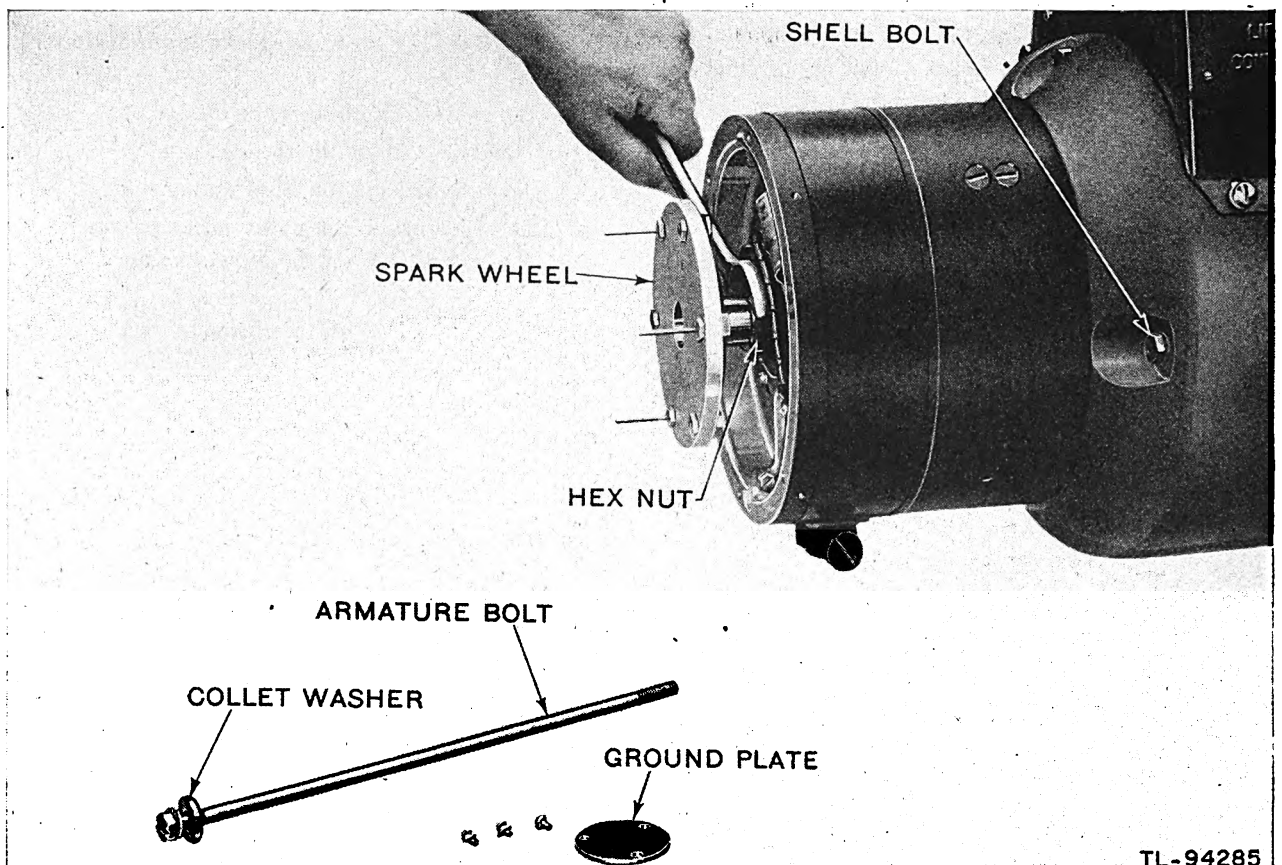
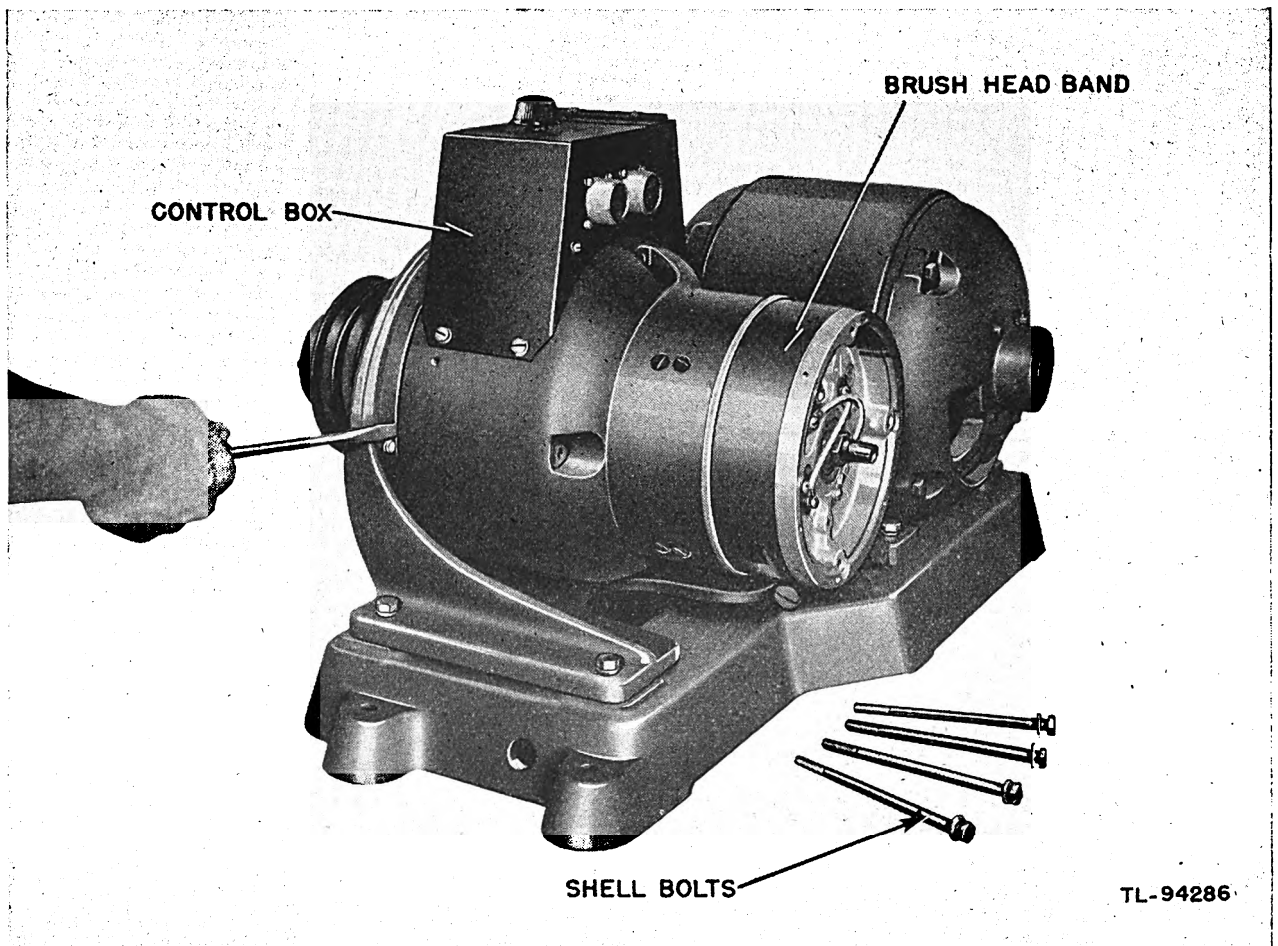
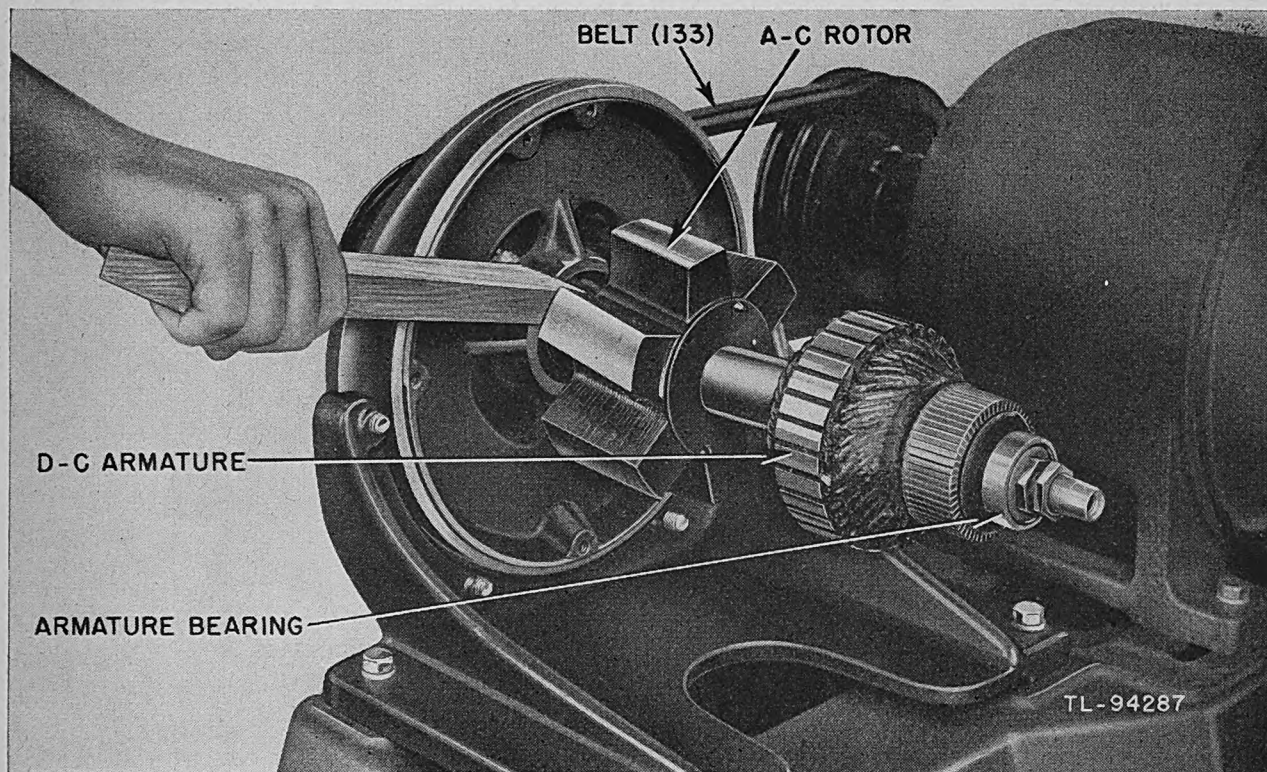
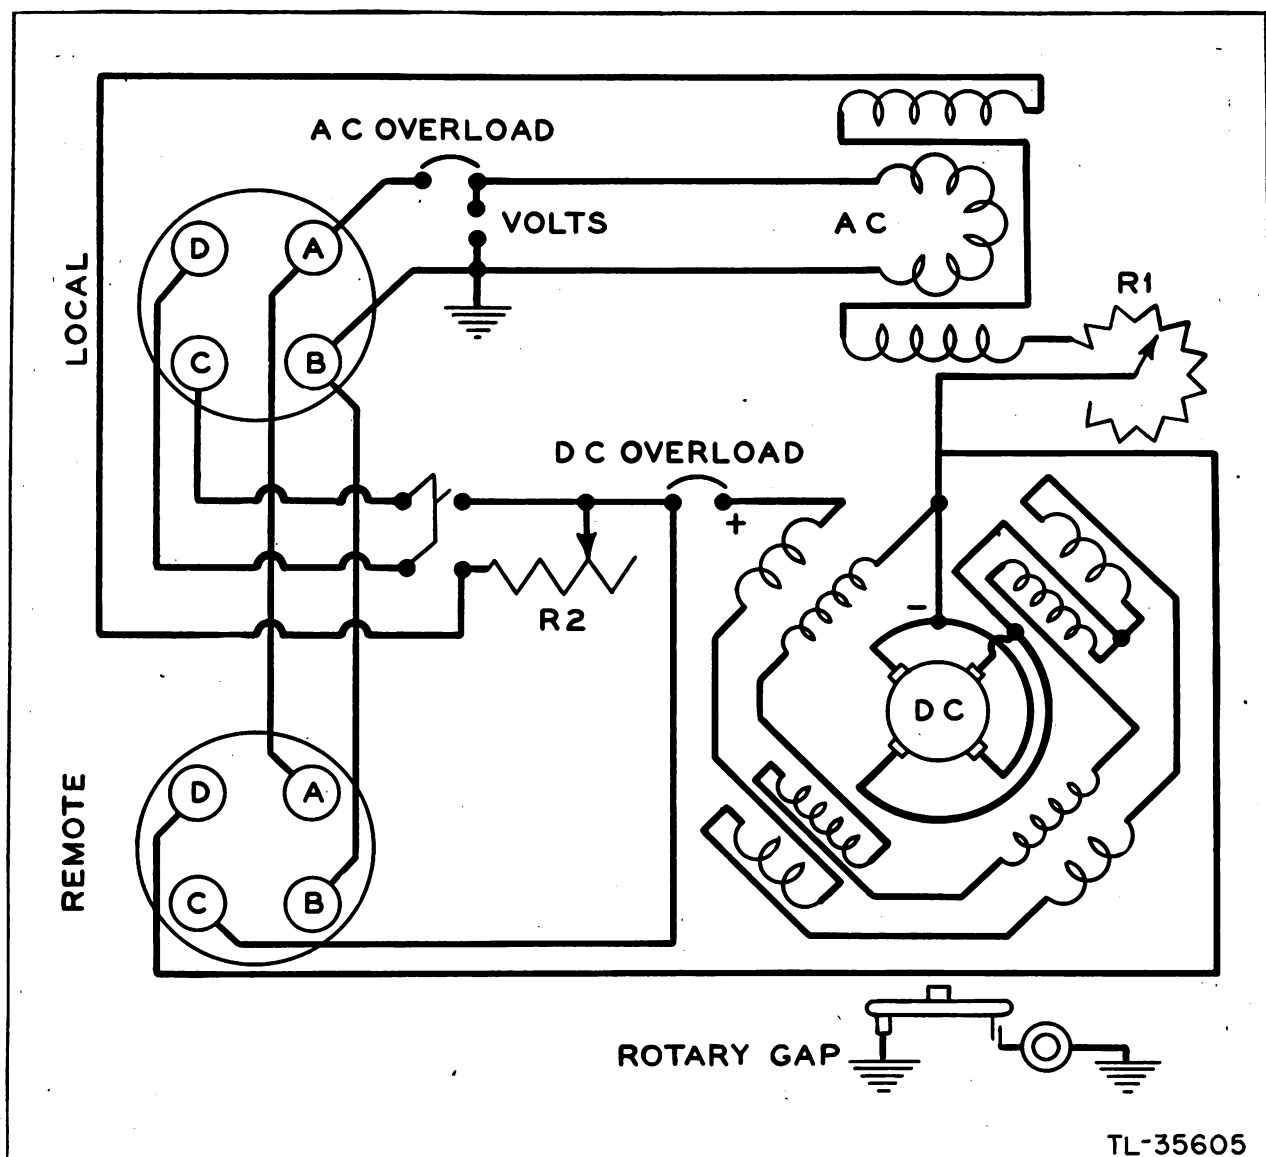

Figure 7. Removing spark wheel.
Figure 9. Removing generator assembly.
Figure 10. Removing armature assembly.
Figure 14. Schematic wiring diagram.
(m) Remove the three screws and take off the ground plate (fig. 7).
(n) Remove the armature bolt with the collet washer, and back off the rear hexagonal nut on the armature shaft to remove the spark wheel (fig. 7).
b. Disassembling Generator. (1) Remove the ground plate by taking out the three screws. (2) Remove the armature bolt with collet washer, and back off the rear hexagonal nut on the armature shaft to remove the spark wheel (fig. 7). Remove the brush head-band and lift the four brushes out of their holders. (3) Remove the four shell bolts (fig. 7), insert a large screwdriver in the notch on the side of the shell, and pry off the complete generator assembly (fig. 9). The armature shaft is keyed on the countershaft. To remove it, pry with a wooden bar placed between the generator mounting bracket and the a-c rotor (fig. 10). Remove the key from the countershaft.
c. Generator Assembly. (1) Place the key in the countershaft, align the keyway in the armature shaft, and slide the armature over the countershaft until it is flush with the shoulder of the shaft.
(2) If the yoke and control box have been removed from the shell, reassemble them. Note that the brush head and yoke are fastened to the shell by four yoke bolts. *Refer to wiring diagrams (figs. 14 and 15) to make sure that all connections are correct.* Slide the complete yoke, shell, and brush head assembly over the armature. Fasten the shell to the generator mounting base with four shell bolts and lockwashers (fig. 9).